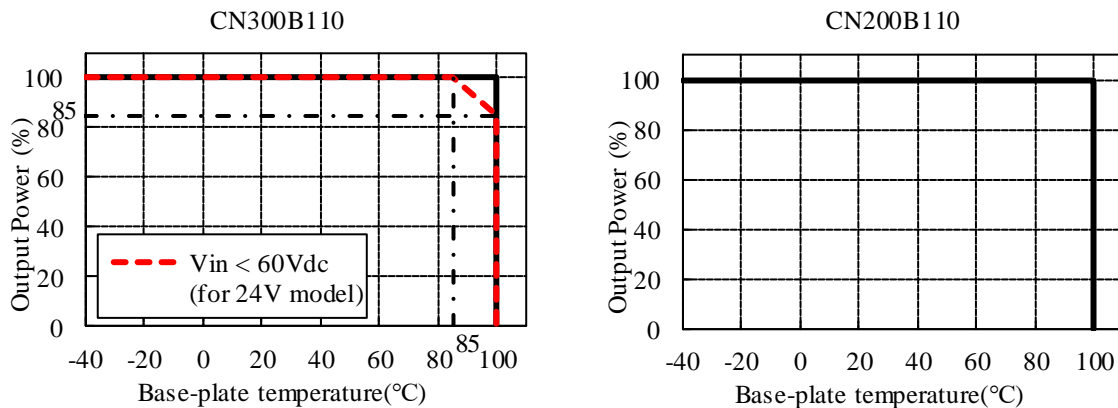

Fig.7-24 Derating Curve
2. There is limitation on baseplate temperature range for as shown in Fig 7-24.